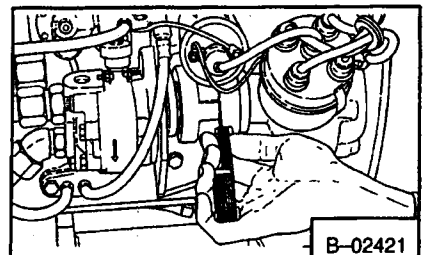

Fig. 4-59 Using Feeler Gauge
9. Pull each coupling half together on drive and pump shaft. Check for .025 inch (.63 mm) clearance between each half of coupling. use feelers gauge and check all the way around coupling while not turning shaft (Fig. 4-59).
12. Check again for .025 inch (.63 mm) clearance between each coupling half (Fig. 4-59).